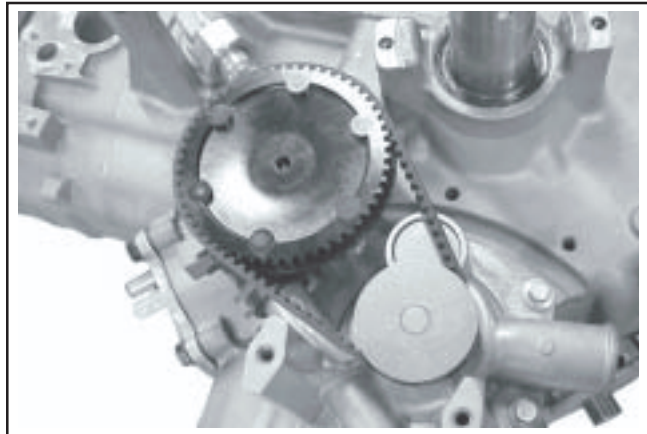

Figure 11-54. Installing Cam Pulley and Belt.
10. Install the drive belt onto the cogged pulley of water pump, then around the cam pulley. Slide the cam pulley, with the belt attached, down onto the keyway end of the camshaft. Be careful not to push the key out of the keyway and/or into the seal when installing the pulley. See Figure 11-54.